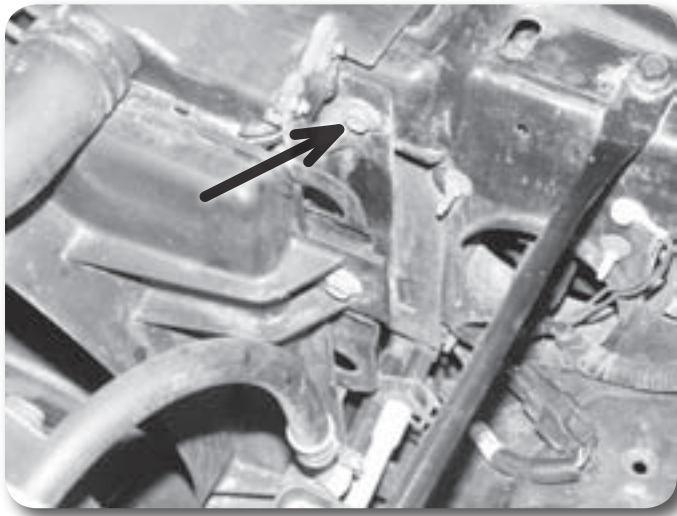

Figure 4
8. Remove the six bolts mounting the radiator to the core support (Figure 4). Carefully rest the radiator against the fan. It will be relocated after the lift is installed. Save hardware.